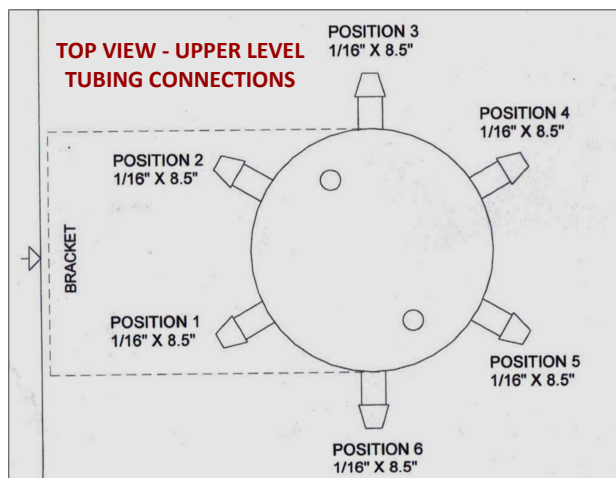
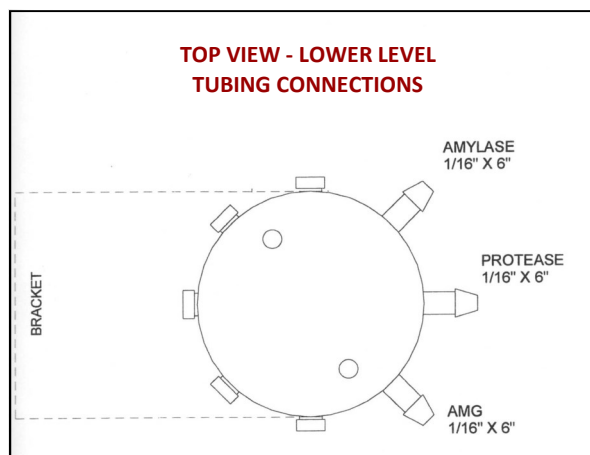
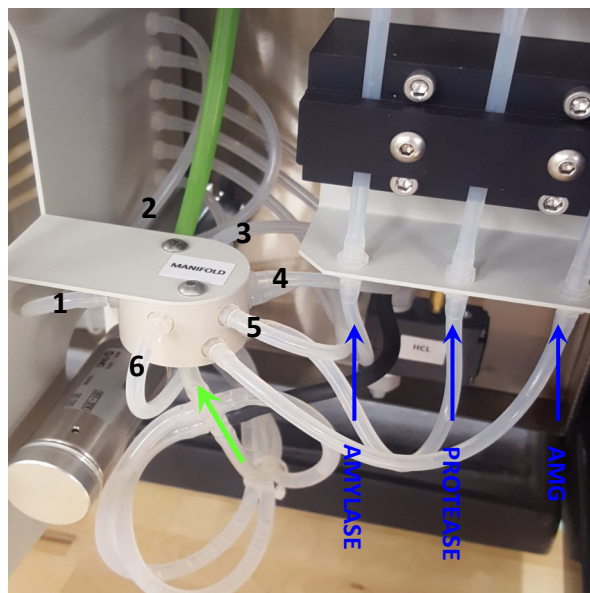

Figure 2
Figure 4
Figure 5
4. Reattach the 8.5" Silicone tubing, (3/16" x 1/16", TDF77) to the six positions around the top level of the Supply Manifold - see Figure 2. Also see Figure 5 on the next page. *Be careful not to gouge the edge of the tube when installing the tubing onto the barb fitting.* When doing this feed the position 1 and 2 tubes behind the green air line for a better fit.
6. Connect the three silicone enzyme tubes (6" length, 3/16" x 1/16", TDF77) from the lower level positions on the Manifold to the correct location on the Enzyme Valve bracket in Figure 4 and **BLUE** arrows in Figure 5.